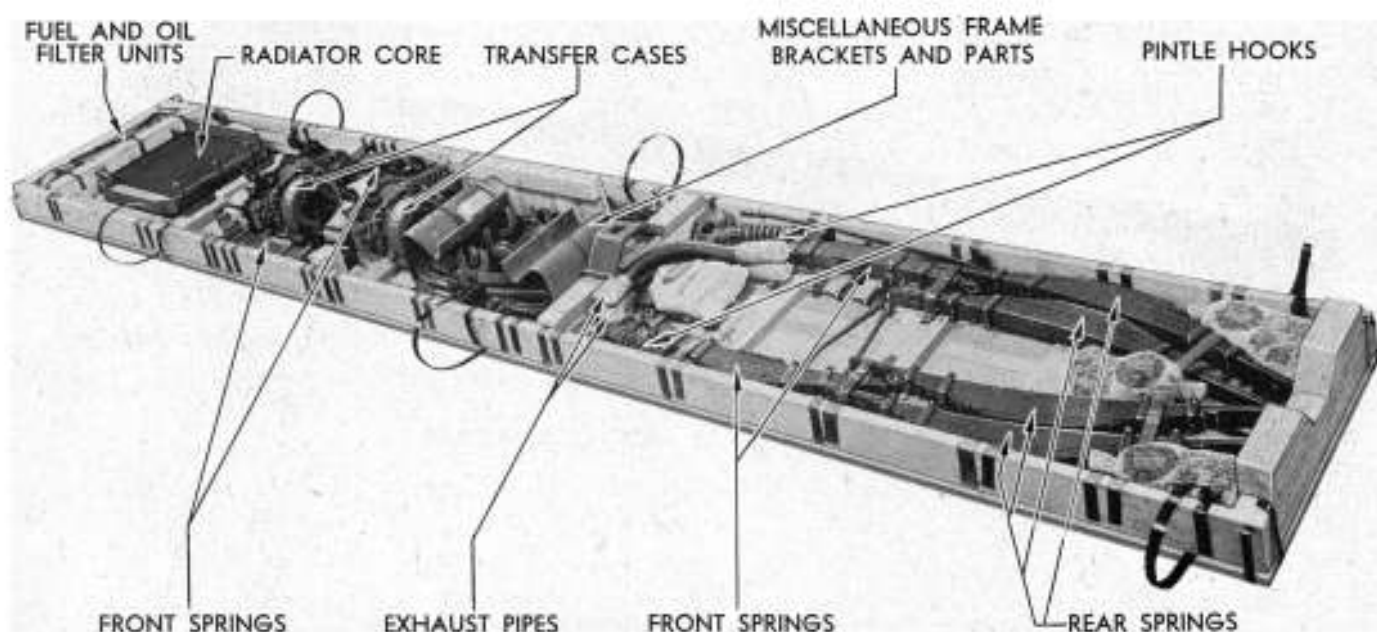

Figure 5—Bottom of Frame Case
(6) **Parts, Bags, and Boxes on Bottom of Case** (fig. 5). Cut or remove all fastenings that hold parts to case bottom, bend over all sharp corners and edges to avoid injury and to facilitate removal. Be sure all items are loose but do not remove from case. Do not open boxes, bags, or packages until contents are required for reassembly. Check all articles against packing list for identification purposes.